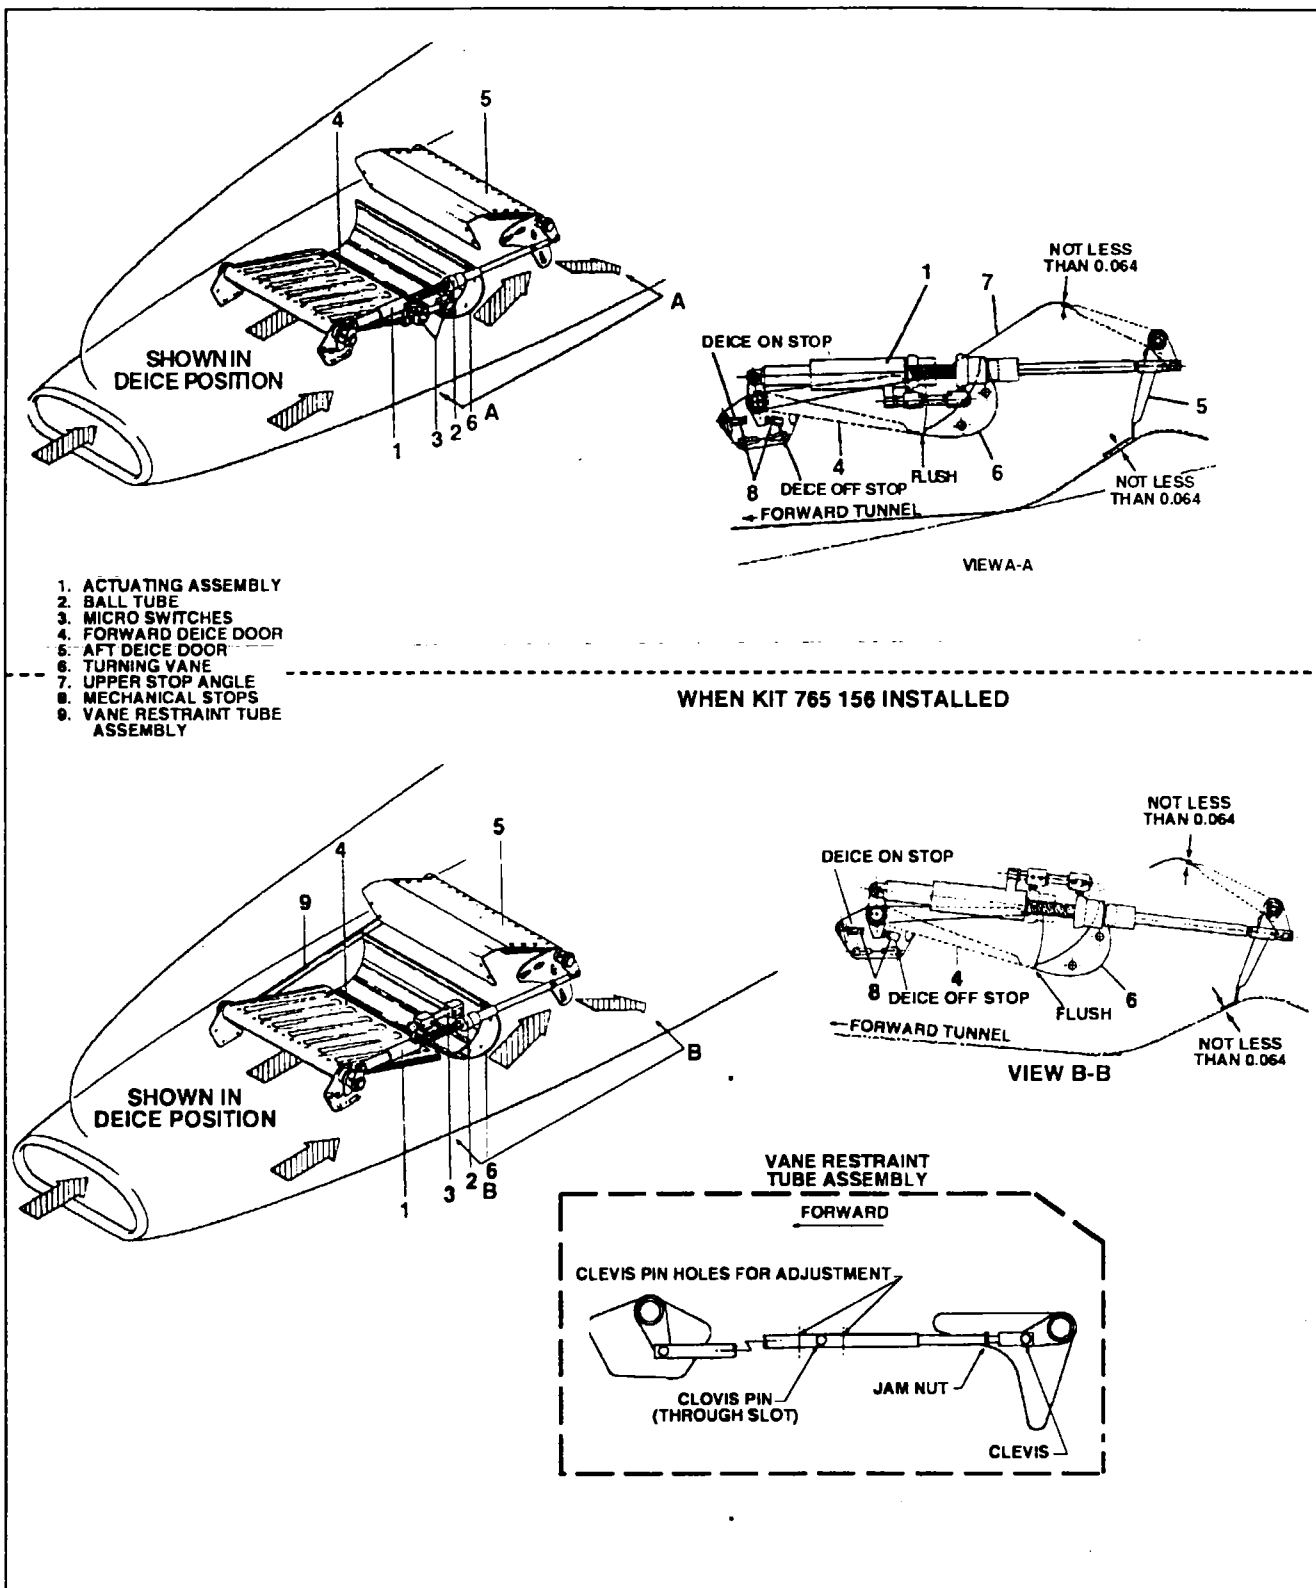

Figure 30-16. Air Inlet Ice Protection System
- H. Manually position the inertial separator doors to the icing position (Front door down, rear door up) insure that the front door trailing edge is flush with the fixed turning vane. See Figure 30-16 for this position.
- N. In the DEICE ON position, ascertain that the forward door does not extend below the fixed turning vane, and the rear door has no less than 0.064 of an inch gap between its trailing edge and the upper stop angle. (See Figure 30-16.)
- (1) In the closed icing position, locate the *forward* vane restraint tube assembly with the clevis toward the aft end of the cowl and the tube assembly on the side opposite the actuator. (See Figure 30-16.)
- (2) Move the clevis pin, through the slot to one of the three adjustment holes provided; then adjust the clevis end, as required, to align the rod assembly attach holes with the holes in the *forward* and *aft* arm assemblies. The torque tube must be fully compressed. (See Figure 30-16.)
- (3) Turn clevis out 1/4 to 1 turn; then lock.
- (4) Install tube assembly using appropriate hardware. Activate the system through several cycles to ensure no binding.